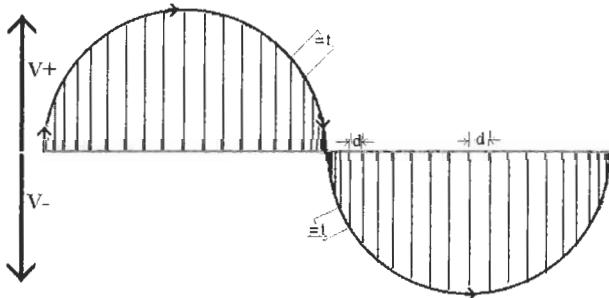

Figure L49-8
- And it is not easy to show something that moves backward, because time moves forward. So Figure L49-8 shows the negative voltage movement happening after the positive voltage.